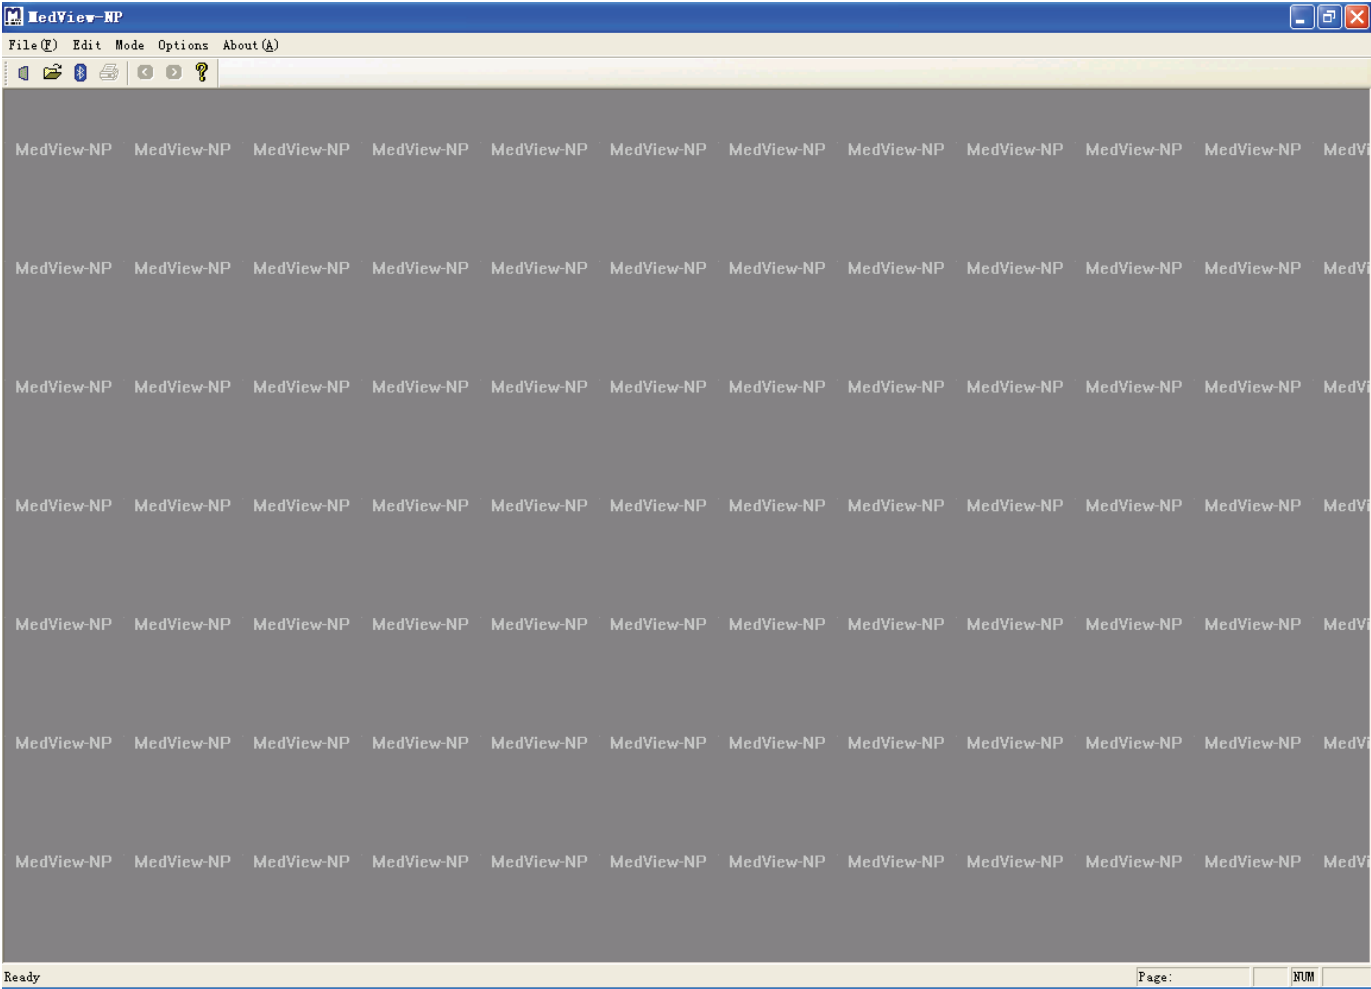

Figure 3-1
**3.1.1** Double-click the icon “MedView-NP” on the desktop, the following screen will appear, as shown in Figure 3-1.
**3.2.1** Click “File(F)” in the interface as shown in Figure 3-1, then the following figure will appear.